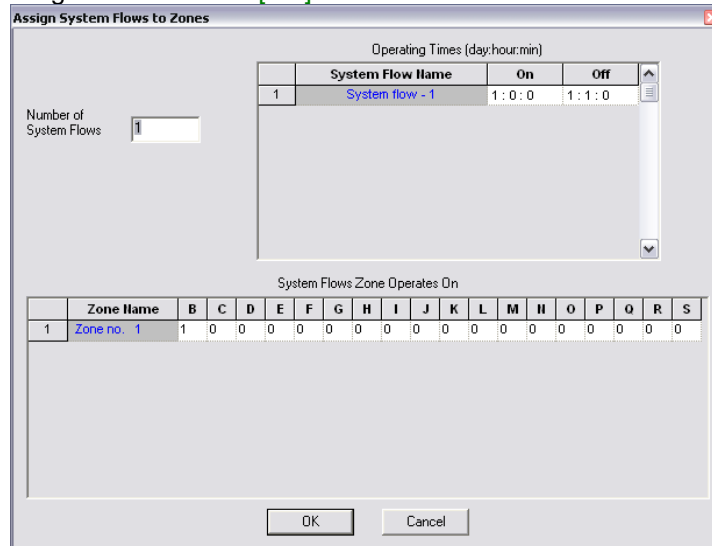

Figure SD 8
20. Now we wish to assign the zones to system flows. Select *Design|Assign All Zones to One System Flow* as we only have one Zone (control valve or block). You will notice that Zone no. 1 will operate on System Flow 1 as in Figure SD 8. Click [OK].